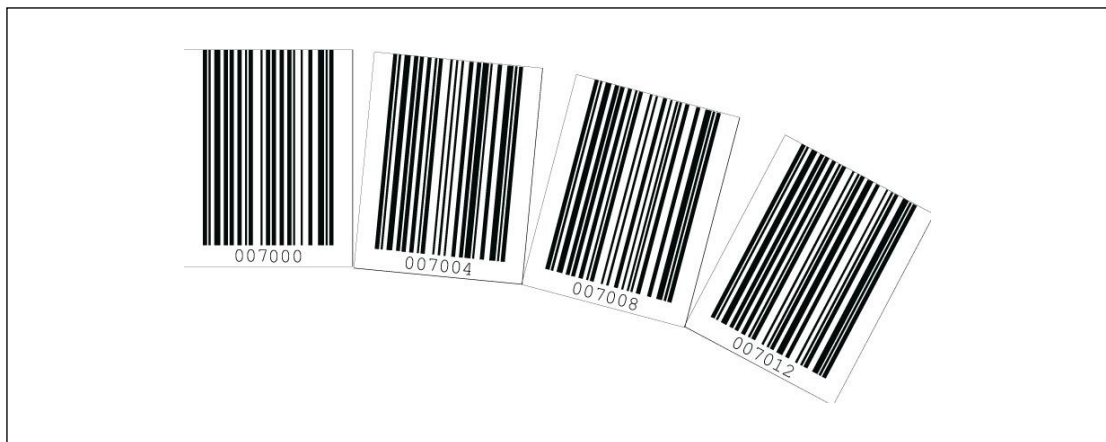

Figure 5-4: Partial cutting of the barcode tape in curves
*When working with barcode tape in curves, the barcode tape should only be partially cut at the cut mark and affixed along the curve like a fan; it must also be ensured that the barcode tape is affixed without tension (see **Figure 5-4**).*